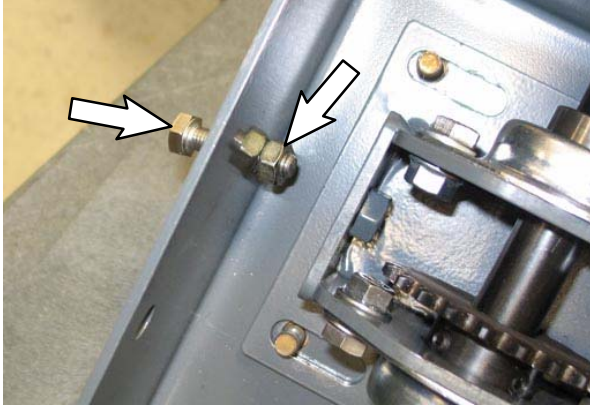

FIG. 35
31. **Newer Design Machines:** Remove the steering tension hardware. (Fig. 35)